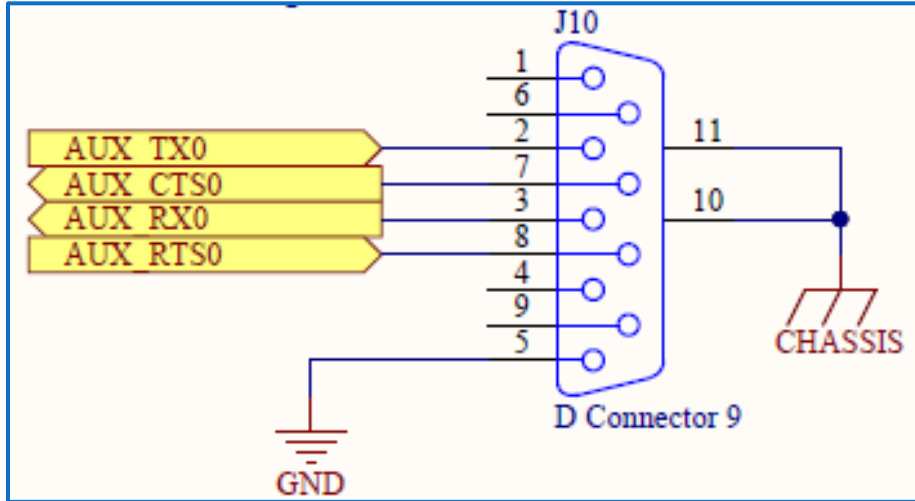

Figure 31 - J10 RS-232 Communications
- Figure 31 - (J15 MOTF Port 0 (X) and J16 MOTF Port 1 (Y)).